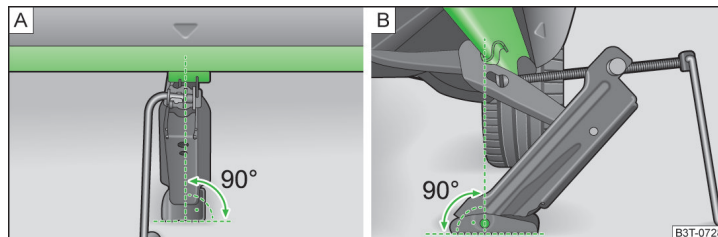

Fig. 179 Attach lifting jack
- > Offer the jack up so that its claw encloses the web » Fig. 179 - [B].
- > Support the base plate of the jack with its full area resting on level ground and ensure that the jack is located in a vertical position at the point where the claw encloses the web » Fig. 179 - [A].